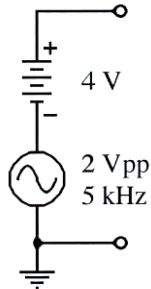

Figure 1-5. Combined DC and AC
11. Set the scope to a vertical sensitivity of 1.0 V/DIV, with the trace centered 2 divisions below the centre of the graticule, and the VERTICAL COUPLING set to DC. Connect the circuit of Figure 1-5.
12. Connect the scope input to the circuit of Figure 1-5 and draw the observed waveform on the graticule provided in step 3 of the Data Sheet.